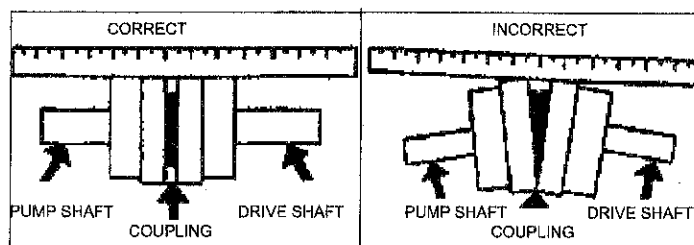

FIGURE 5.
7. To assure parallel alignment (Figure 5) place a straight edge along the side of both coupling halves in two different locations, 90° apart. The coupling is aligned when the straight edge rests squarely on the sides of both coupling halves.